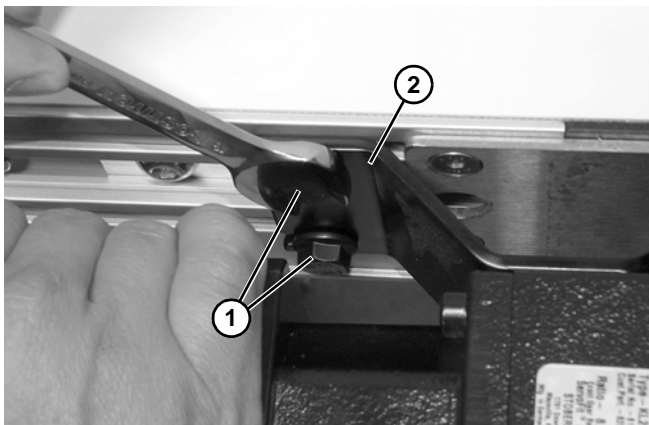

Figure 17
6. Slide tee bars and fasteners (Figure 17, item 1) into slots in mounting plate (Figure 17, item 2) and tighten.